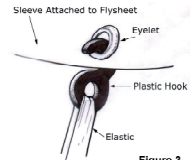

Figure 3
7. Then, working systematically, using the hooks attach the inner to the eyelets located on a fabric tabs sewn to the inside of the flysheet (see figure 3).